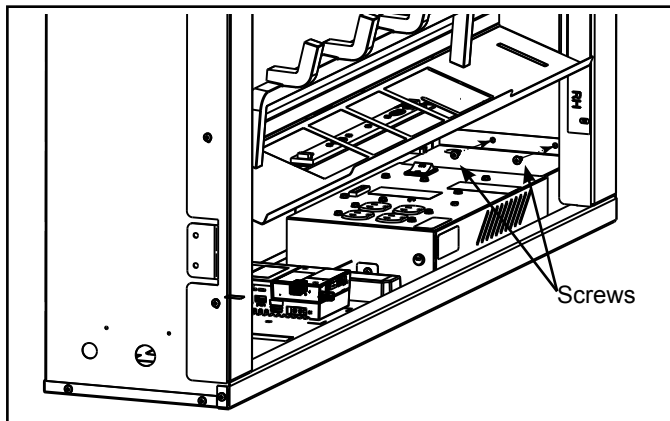

Figure 3.9 Securing Termination Cover
3. Remove the Termination Cover Plate on the right wall of the control cavity by removing the two Phillips screws, and lifting up and away from the control cavity. See Figure 3.9 and 3.10.